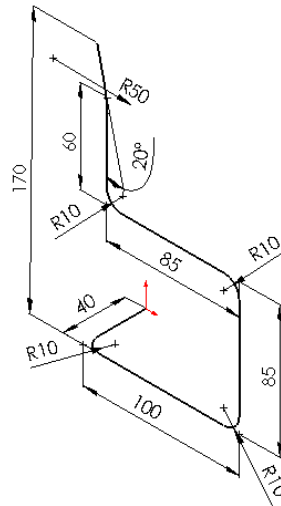

Figure 9-113 Sketch of the 3D path
- a. The chair frame is created by sweeping a profile along a 3D path. The 3D path will be created in the 3D sketching environment. Therefore, you need to invoke the 3D sketching environment and then create the sketch of the 3D path. You will create only the left half of the 3D path in the 3D sketching environment, refer to Figure 9-113.
14. Similarly, create the remaining sketch and add the required relations and dimensions to the sketch. The final sketch is displayed in Figure 9-113.